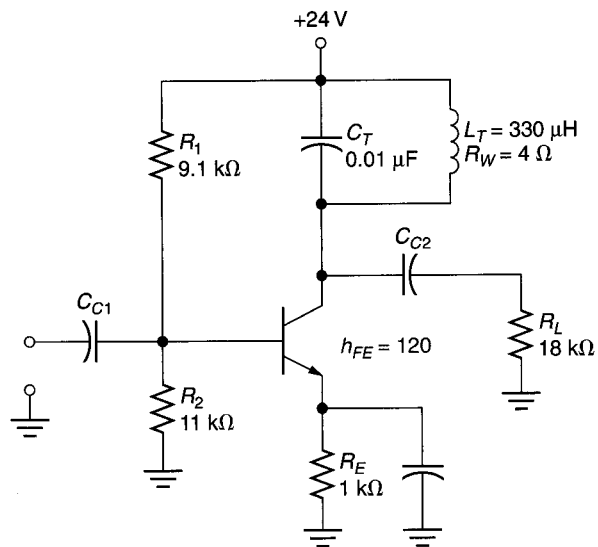

FIGURE 17.63
35. The inductor in Figure 17.63 is replaced by one with a winding resistance of  $17\ \Omega$ . Calculate the shift that occurs in each of the cutoff frequencies as a result of this change.